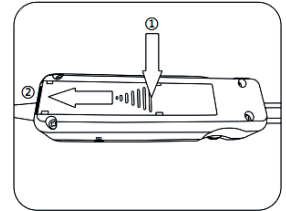
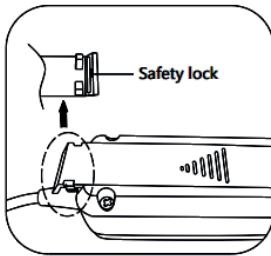
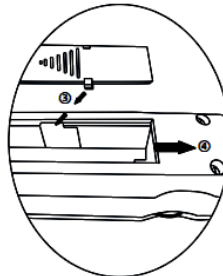

Figure 1
Figure 2
Figure 3
①press from the base of the triangle on the cover, see Figure 1; ②push the cover out of the safety lock, see Figure 2; ③tilt the end of the cover up and remove the whole cover; put the batteries in; ④put the cover latch into the notch and push it back, see Figure 3.